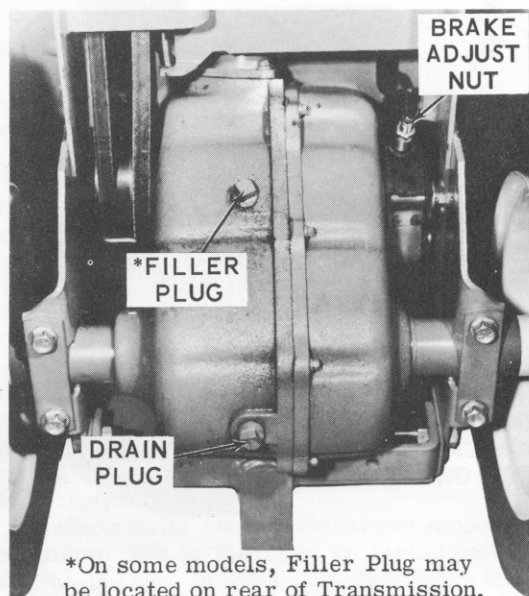

Figure 1
b. Transmission. Periodically remove the oil level (filler) plug and check the oil level. See figure 1. When required, use pressure oil can to add transmission lubricant. Fill to bottom of oil level (filler) hole. Be sure tractor is on level